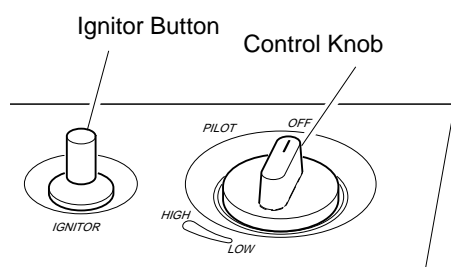

Figure 15 - Control Knob In The OFF Position
4. Wait five (5) minutes to clear out any gas. Then smell for gas, including near the floor. If you smell gas, STOP! Follow "B" in the safety information on page 10, column 3. If you don't smell gas, go to the next step.
5. Press in control knob and turn counterclockwise to the PILOT position. Keep control knob pressed in for five (5) seconds (see Figure 15).